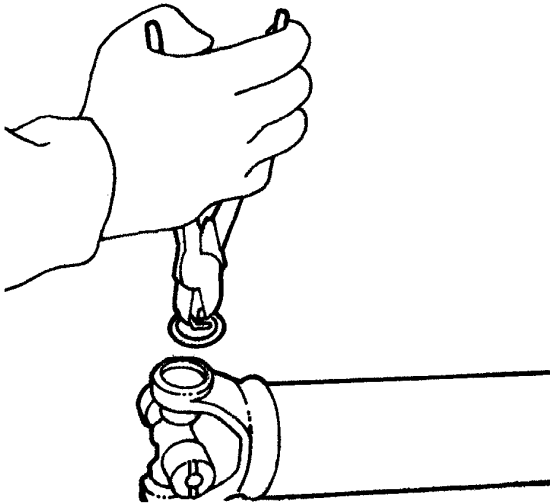

Figure 14 Remove Snap Rings
1. Remove each snap ring by pinching the end together with a pair of pliers (Figure 14).